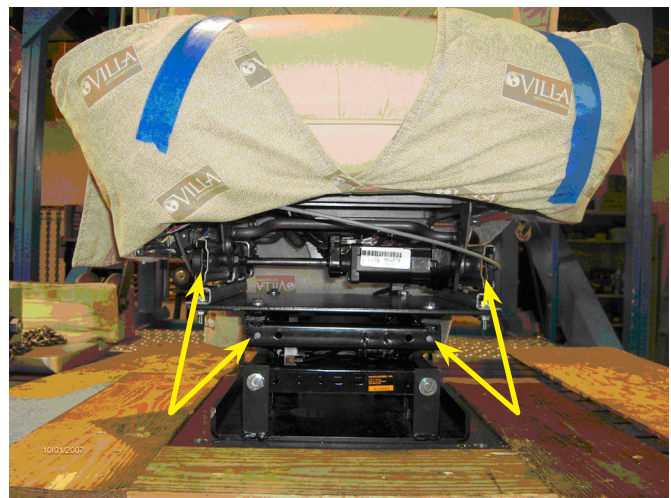

Figure 1
1. Pull skirt of seat up and secure with masking tape (*Figure 1*).
2. The tethers are attached from the adapter plate to the floor plate (*Figure 1*).